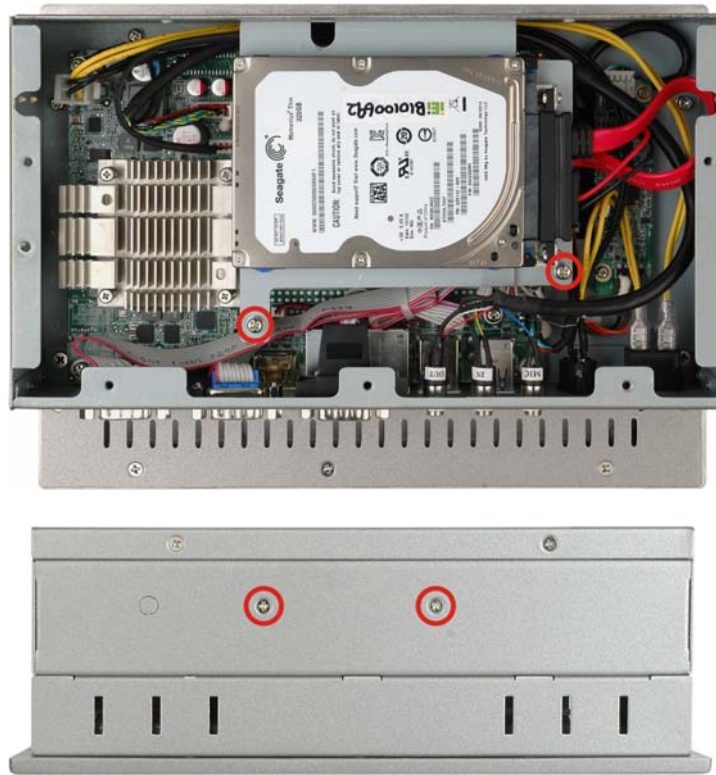

Figure 3-14: Replacing the PPC-3708A-N26 HDD Bracket
Step 4: Install the HDD bracket (with hard drive and SATA cable attached) into the PPC-3708A-N26 and fasten the four HDD bracket screws. (Figure 3-14.)